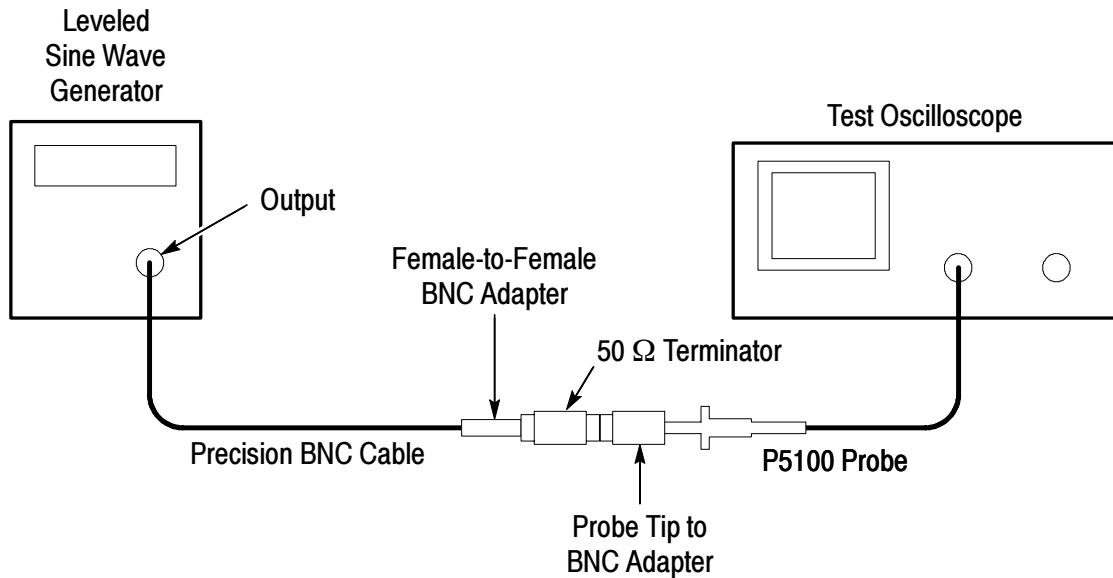

Figure 9: Bandwidth Test Setup
1. Connect the test setup as shown in Figure 9.